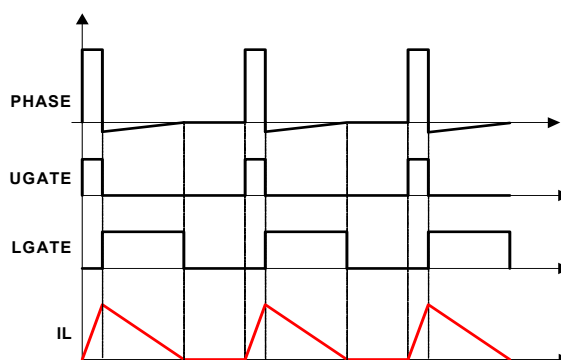

Figure 27. Diode Emulation
The R3 modulator can operate in Diode Emulation (DE) mode to increase light-load efficiency. For example, in Buck DE mode the low-side MOSFET conducts when the current is flowing from source-to-drain and does not allow reverse current, emulating a diode. As shown in Figure 27, when $LGATE$ is on, the low-side MOSFET carries current, which creates negative voltage on the phase node due to the voltage drop across the ON-resistance. The IC monitors the current by monitoring the phase node voltage. It turns off $LGATE$ when the
If the load current is light enough, as Figure 27 shows, the inductor current reaches and stays at zero before the next phase node pulse. At this stage, the regulator is in Discontinuous Conduction Mode (DCM). If the load current is heavy enough, the inductor current never reaches 0A and the regulator is in CCM, although the controller is in DE mode.